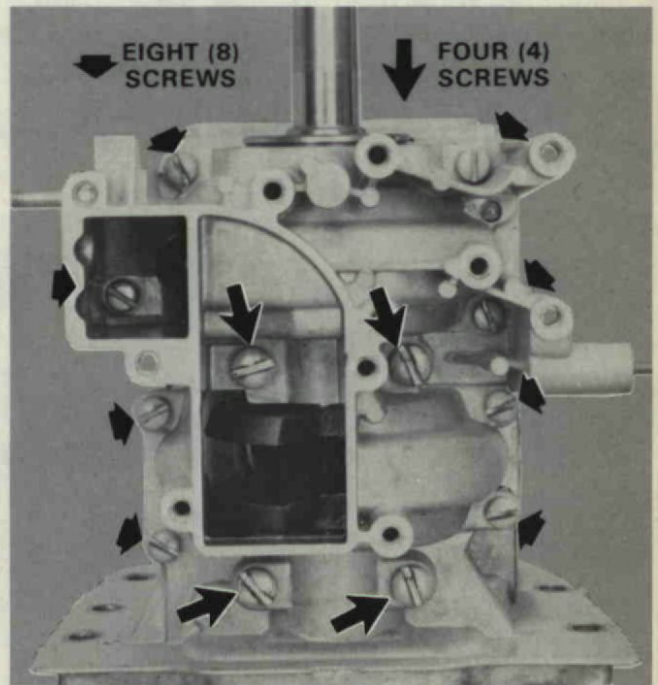

Figure 17. Removing Crankcase Cover Screws.
8. Remove three (3) taptite, washer head screws securing exhaust tube to cylinder.
10. Remove four (4) hex head screws that secure cylinder drain cover to cylinder. Remove cylinder drain cover and gasket.
11. Remove eight (8) bolts with washers that secure cylinder head to cylinder; remove cylinder head and gasket.
12. Remove three (3) screws that secure transfer port cover to cylinder. Remove transfer port cover and gasket.
- A. Remove eight (8) 1/4" dia. screws and four (4) 5/16" dia. screws that secure crankcase cover to cylinder. Figure 17.